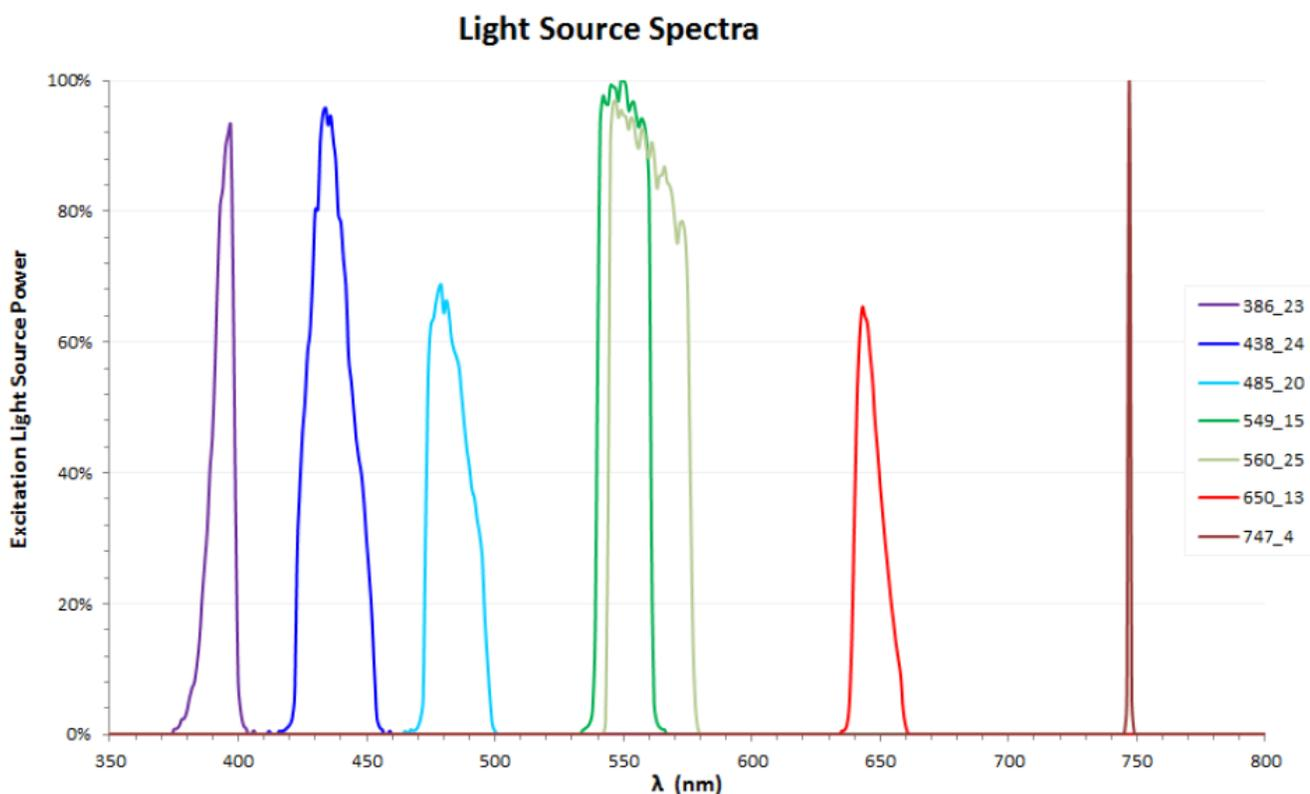

Figure 41 Spectral power output from the 7-color excitation light source
The instrument has a 7-color light source for fluorescence excitation; the 6 lower excitation wavelengths are generated from LEDs, and the 747 nm excitation is from a laser diode. Each color generated from the LEDs is further conditioned by an internal emission filter before being emitted from the light source. The use of LEDs with internal excitation filters eliminates the need for additional excitation filter wheels in the light path. The excitation light source has been purposely built for these seven colors, which range from the ultra violet (UV) to the near infra-red (NIR). Figure 41 shows the spectral power output of the seven emitted colors from the light source – each color is described by the center wavelength, and the FWHM (full width of the half maximum) of the emitted spectral band. For example, 386_23 refers to exciting the sample with 386 nm light with a 23 nm band. The spectral power output from the 6 lower wavelength LED lines are normalized. Note that the excitation filters cannot be changed to broaden the range of excitation using the LED light source; nonetheless these seven colors can excite a broad range of fluorescent probes, giving you a lot of options and flexibility in choosing fluorescent dyes (Figure 42).